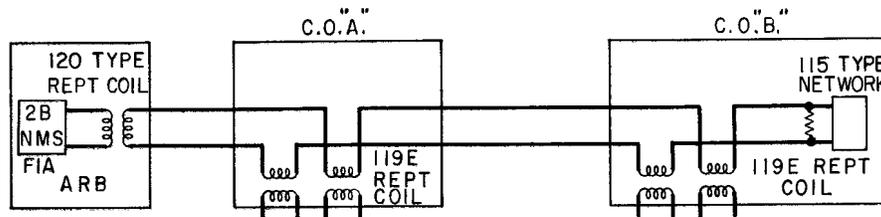

Fig. 9 — Measurement of Over-all Noise
7.01 Measurements of the over-all steady noise should be made at ARB headquarters using the 2B Noise Measuring Set in accordance with practices covering the use of the set. The steady noise should not exceed 35 dba with FIA weighting. The over-all circuit should be in the normal operating condition when the measurement is made. Fig. 9 shows a diagram for the test arrangement. The coil should be connected to the LINE jacks or terminals of the 2B set with the switch on FIA weighting. The circuit should be monitored with the 2B set receiver for crosstalk during the measurement. The presence of intelligible crosstalk is an indication of trouble.